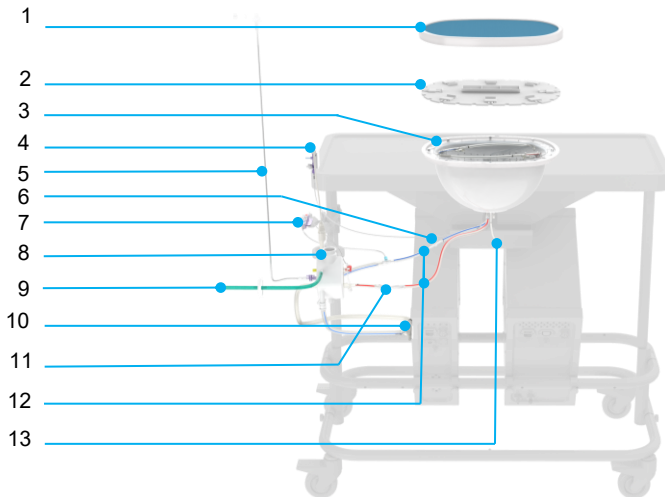

Figure 9: Disposable set.
At the top of the trolley a tabletop is mounted to create a work surface. On the tabletop, the kidney reservoir holder is located; a cavity wherein the kidney reservoir of the disposable perfusion set (see Figure 9, item 3) is placed. The thermal insulating properties of the tabletop maintain the perfusion temperature in the kidney reservoir. Under the tabletop, a thermo cover is located to shield the perfusion lines from the hot air generated by the Thermo Unit and thereby improving the thermal performance of the system. On the right side of the table, a pressure sensor holder is mounted wherein the disposable pressure sensor is placed at the same height of the kidney, the pressure sensor holder is fitted with a bracket to avoid unintentionally repositioning of the pressure sensor valve. At the right side of the trolley, an oxygenator holder is located for placement of the oxygenator of the perfusion set. Additionally, the holder is equipped with a clamp to accommodate the sample manifold.
The Kidney Assist Perfusion Set is a single use disposable, accommodating both the Kidney and the perfusion solution during each perfusion, figure 9. All components are sterile and packaged in a polyethylene tray sealed by a Tyvek sheet
Additional components not shown in Figure 9: